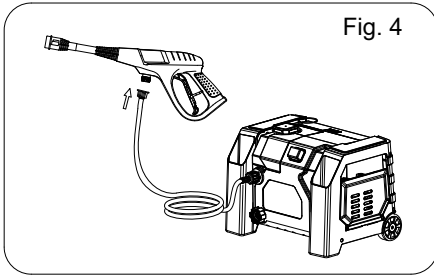

Fig. 4
3. Connect high-pressure hose to spray gun (Fig. 4)